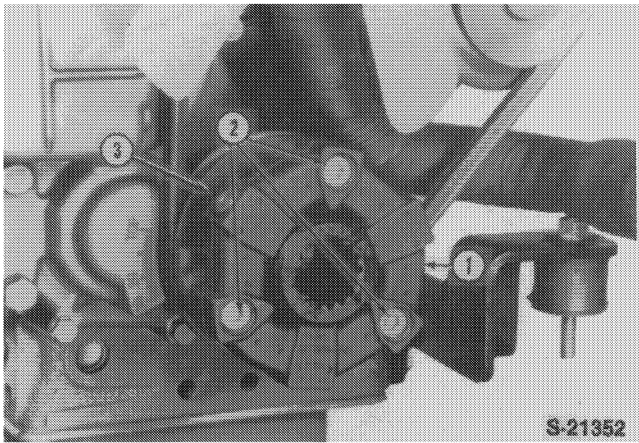

FIGURE 1-53
1. Remove the three coupler bolts, 2, and remove the coupler, 1, from the crankshaft pulley, Figure 1-53.